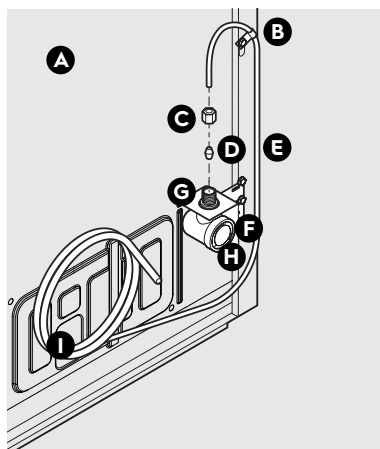
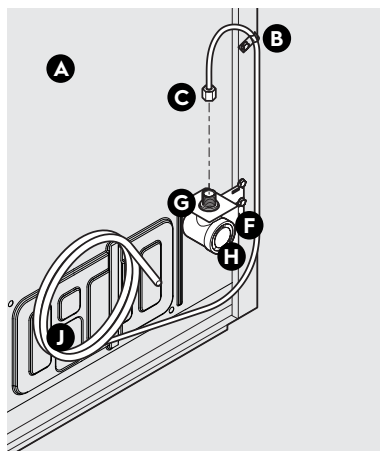

Figure 1
Figure 2
4. If you use **copper tubing** - Slide the brass compression nut, and then the ferrule (sleeve) onto the water supply line. Push the water supply line into the water valve inlet as far as it will go ($\frac{1}{4}$ "/6.4 mm). Slide the ferrule (sleeve) into the valve inlet and finger tighten the compression nut onto the valve. Tighten another half turn with a wrench; DO NOT overtighten. See Figure 1.
If you use **braided flexible stainless steel tubing** - The nut is already assembled on the tubing. Slide the nut onto the valve inlet and finger tighten the nut onto valve. Tighten another half turn with a wrench; DO NOT overtighten. See Figure 2.
B	Steel Clamp (Fig. 1: $\frac{1}{4}$ "; Fig. 2: $\frac{1}{2}$ ")